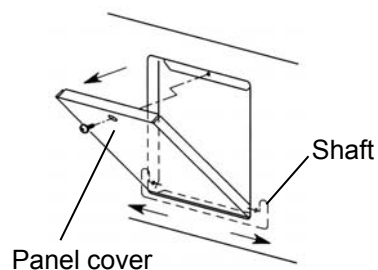

Fig. 1
3. Remove the panel cover from the shaft by pushing the shaft edge to the right and left side respectively. [Fig. 1]